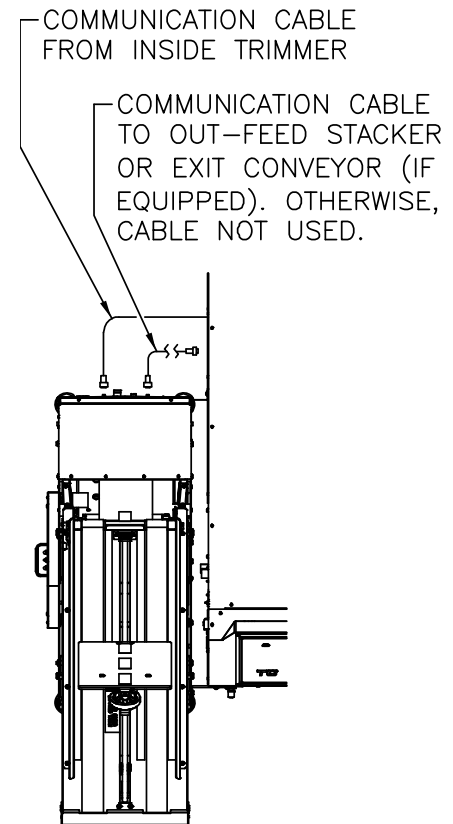

Figure 2-21. Comm. Cable Connections
5. Connect the communication cables as shown in Figure 2-21.